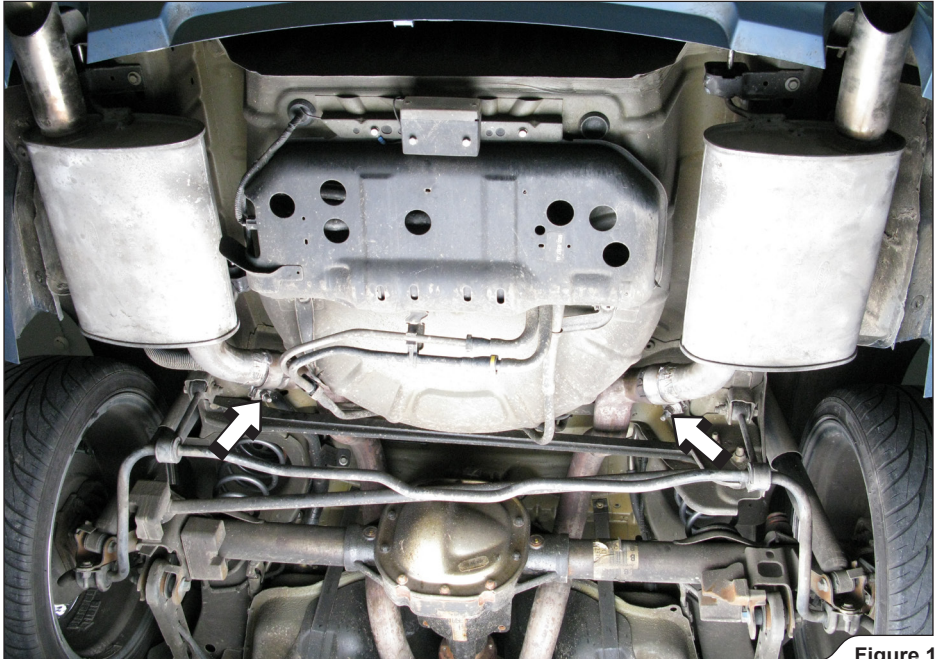

Figure 1
1. **For Slip-On and Evolution:** untighten the marked mufflers inlets' clamps (**Figure 1**).